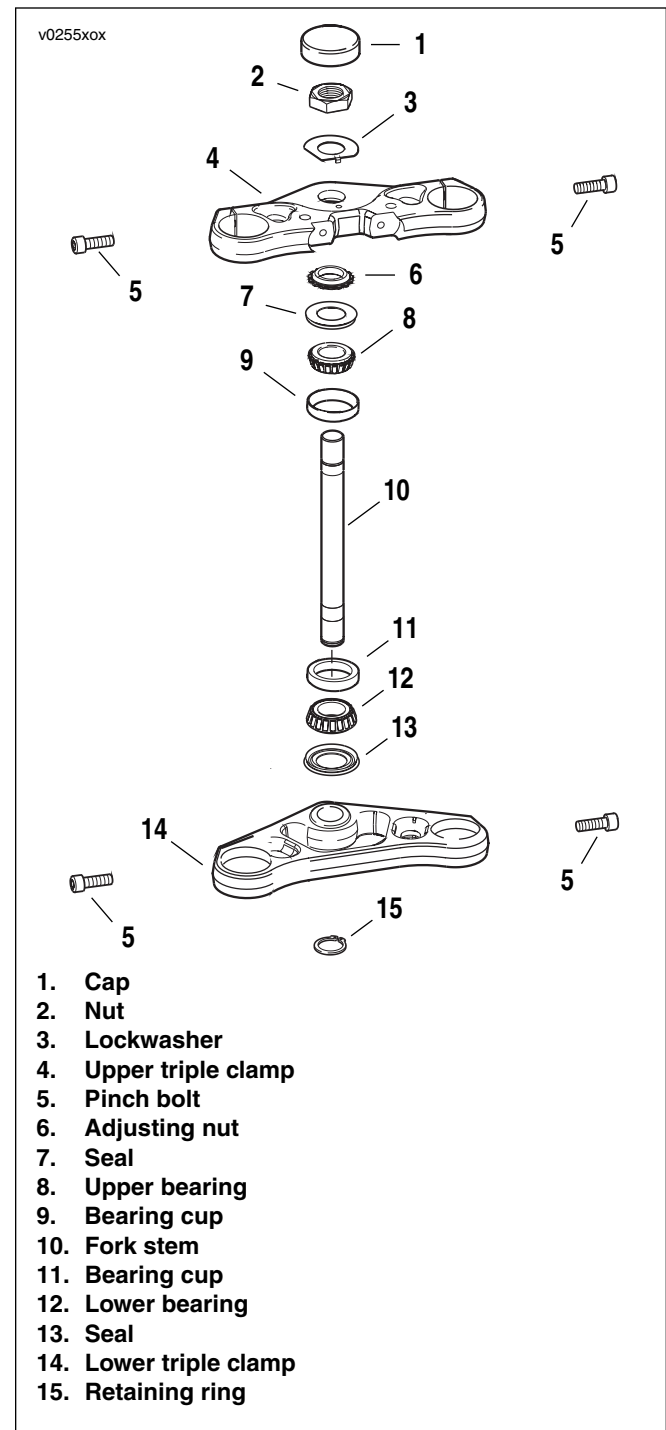

Figure 2-148. Steering Head (typical) (VRSCA shown)
8. See Figure 2-148. Loosen all pinch bolts on top and bottom triple clamps and pull fork tubes from triple clamps. See 2.38 FRONT FORK \(VRSCA/VRSCD\), or 2.39 FRONT FORK \(VRSCR\).
9. Remove brake hose bracket from the bottom of fork stem (10) and bracket.
10. Remove fork stem cap (1). Bend lockwasher (3) tab away from fork stem nut (2). Remove fork stem nut.
11. Lift handlebars from steering head with upper triple clamp (4) attached. Be careful not to pinch or kink control cables.
12. Remove adjusting nut (6), seal (7), and upper bearing (8) out of bearing race.
13. Pull fork stem (10) and lower triple clamp (14) from bottom of steering head.
1. See Figure 2-148. Insert fork stem (10) and lower triple clamp (14) assembly into frame steering head and install a **new** upper bearing (8) and **new** seal (7). Secure with adjusting nut (6). Tighten adjusting nut until bearings have no noticeable shake. Fork stem must turn freely from side to side.
11. See Figure 2-148. Adjust steering head bearing fall away. Tighten or loosen adjusting nut (6) until the fall away measurement is within 51-102 mm (2-4 in.). See 2.40 STEERING HEAD.
12. Tighten fork stem nut (2) to 61-75 Nm (45-55 ft-lbs). Bend the lockwasher (3) tab against nut flat.
13. Replace fork stem cap (1).